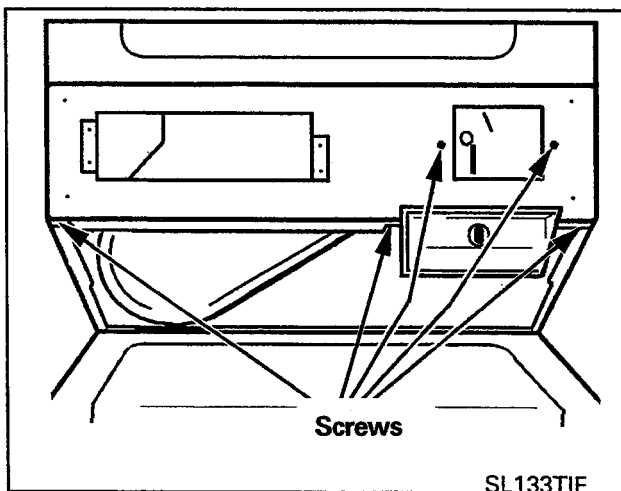

Figure 2-6
3. Remove three security and two pozi drive screws securing the control panel under the console (*Figure 2-6*).